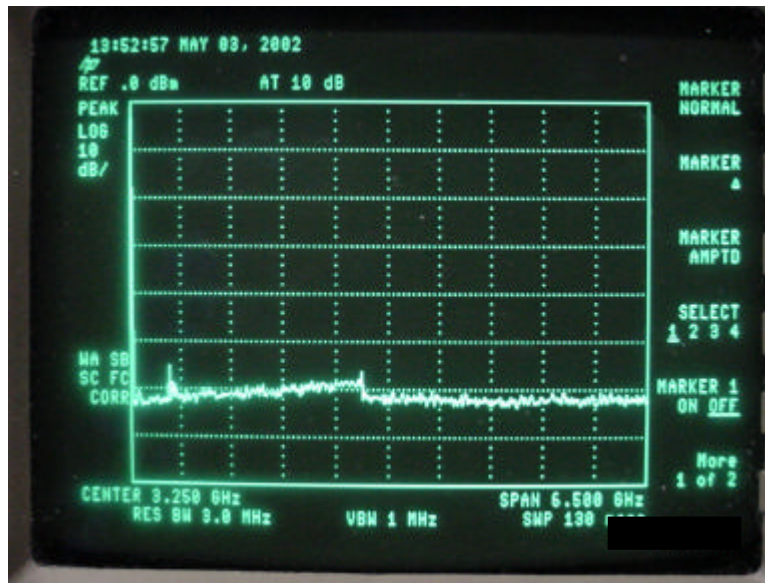

Fig. 2.1: Typical spectrum (centered at 3.5 GHz) without Signal Generator emissions
6. With the SG/T powered down, or with the **Event/Cont** switch in the Event position (no LEDs lit or blinking), measure the ambient spectrum using the receive-only antenna. The spectrum should show a relatively flat line of power around -65 dBm at 3.5 GHz. (Figure 2.1).